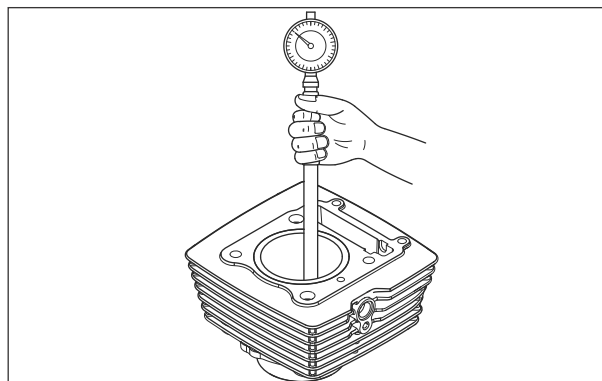
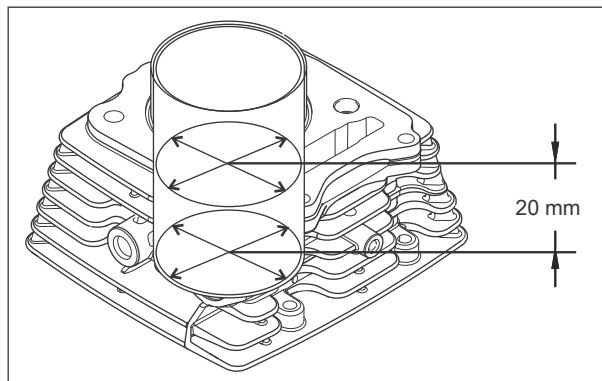

Fig. 3.86
Fig. 3.87
- Measure the cylinder block ID (bore) using the bore gauge. Cylinder bore should be checked in two axis with reference to the cylinder axis at three locations as shown in the figure. (Fig. 3.86 & Fig. 3.87)